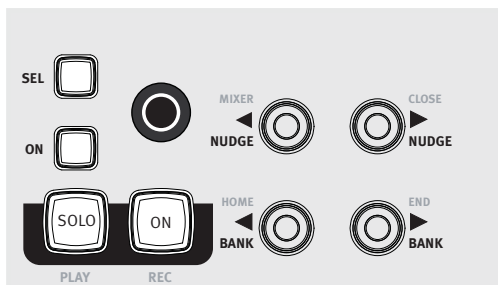

Figure 3-2 **NUDGE** and **BANK** keys
4. Press the **NUDGE** ► key to move all eight tracks over one strip (Figure 3-2).
5. Press the **HOME** key (Figure 3-2) to restore tracks 1–8 to strips 1–8.
6. Press the **BANK** ► key to shift tracks over eight at a time (Figure 3-2).
2. If tracks 1–8 are not assigned to strips 1–8, press the **HOME** key (Figure 3-2) to restore tracks 1–8 to strips 1–8.